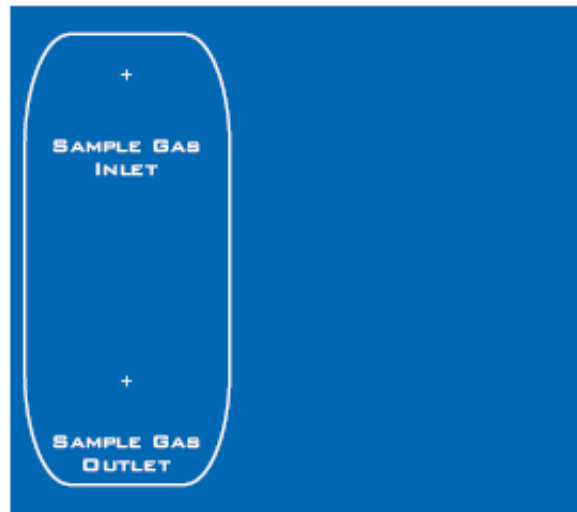

Figure 4 - SDS-D201 Sample Connections
**Sample connections – Model SDS-4C-D201 (Refer to figure 4)**